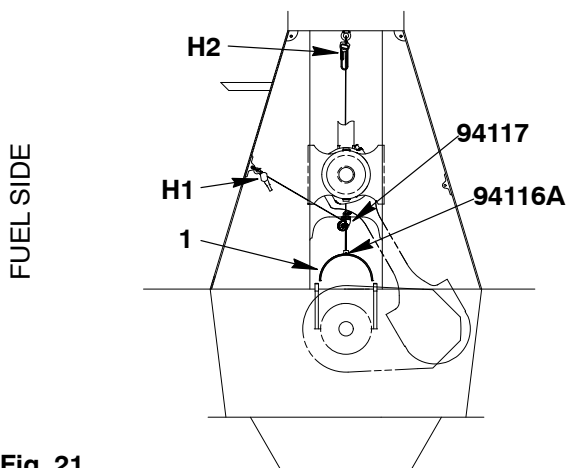

Fig. 21
- 15) Operate the manual ratchet (H1, Fig. 21) and the lifting tool (94116A) to lift the bearing shell (1).